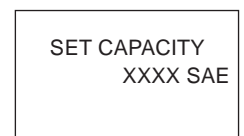

Fig.2
5.3. PAPER LOAD Refer to fig.2